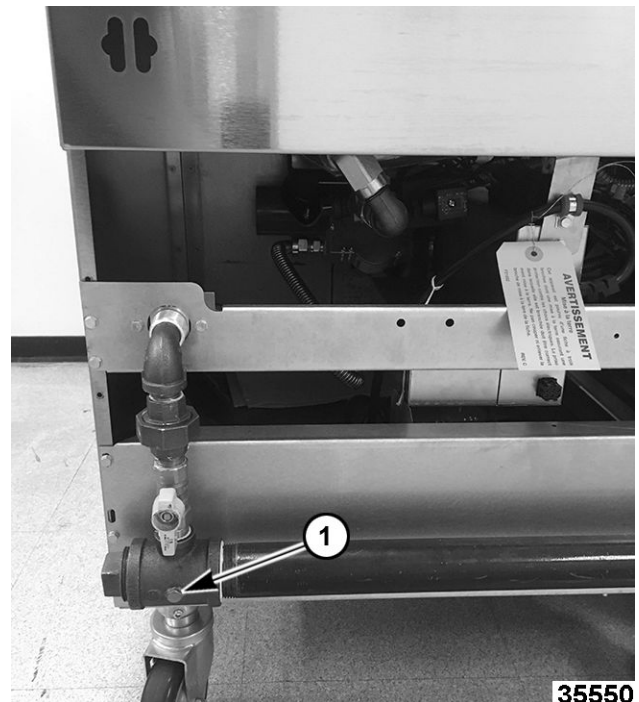

Fig. 60
3. Remove 1/8" NPT plug (Fig. 60, 1) in manifold tee on the far right.